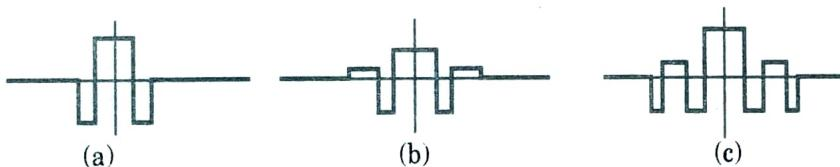

Fig. 2.19.1. Dispersion flattened fiber refractive index profiles:
1. To modify the dispersion characteristics of single mode fibers in order to give two wavelengths of zero dispersion. A typical W fiber index profile (double clad) is shown in Fig. 2.19.1(a).